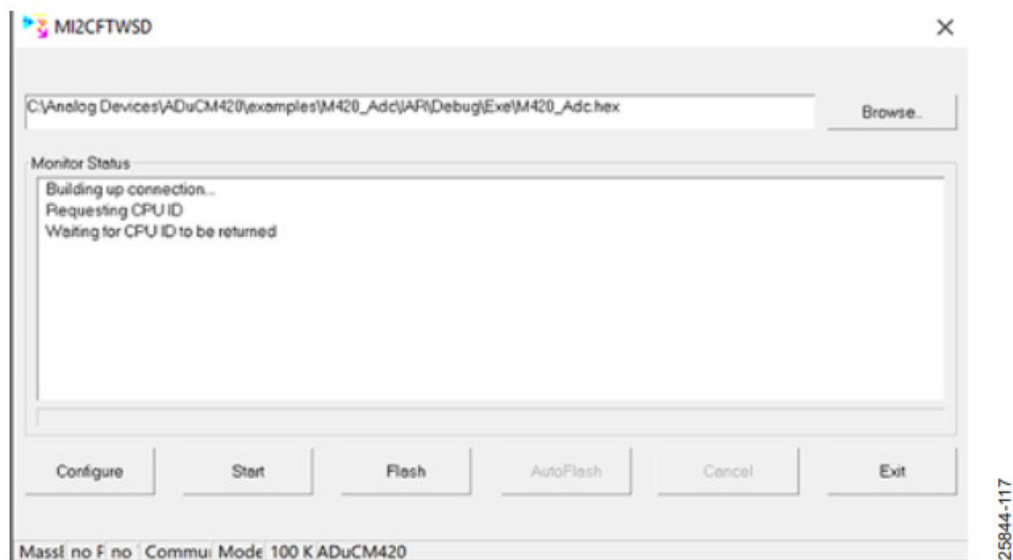

Figure 20. MI2CFTWSD GUI
3. The GUI opens, as shown in Figure 20.